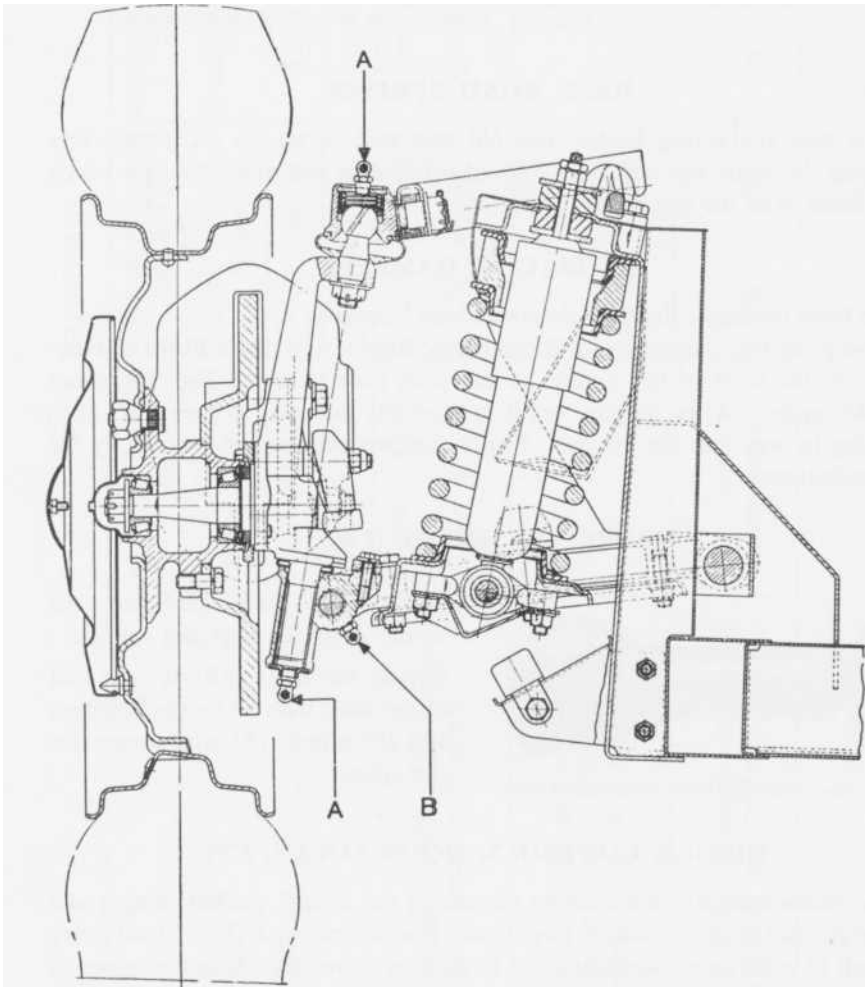

Fig. 13. Front suspension lubrication.
Nipples are provided for lubricating the steering swivels (A), outer tie rod, ball joints, outer bushes of the lower wish-bones (B) (Fig. 13), and the steering slave drop arm pivot. Do not lubricate the joints attached to the drop arms as they contain rubber. Lubricate the inner nylon wish-bone bushes with oil occasionally. A pronounced squeak develops when these bushes become dry. When greasing the lower suspension swivels it is an advantage to jack up under the road spring pan until the front wheel is free of the ground. This allows grease to cover the thrust faces. Grease these points every 1,000 miles.